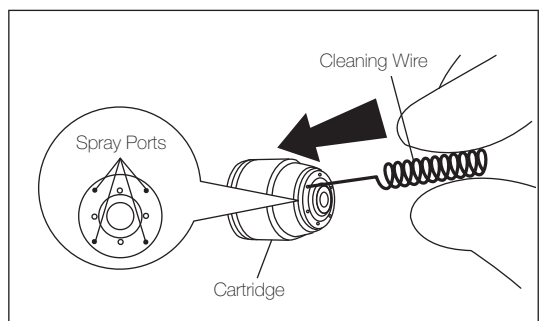

Fig. 8
- 2) Insert the Cleaning Wire straight into the Spray Port. (Fig. 8)